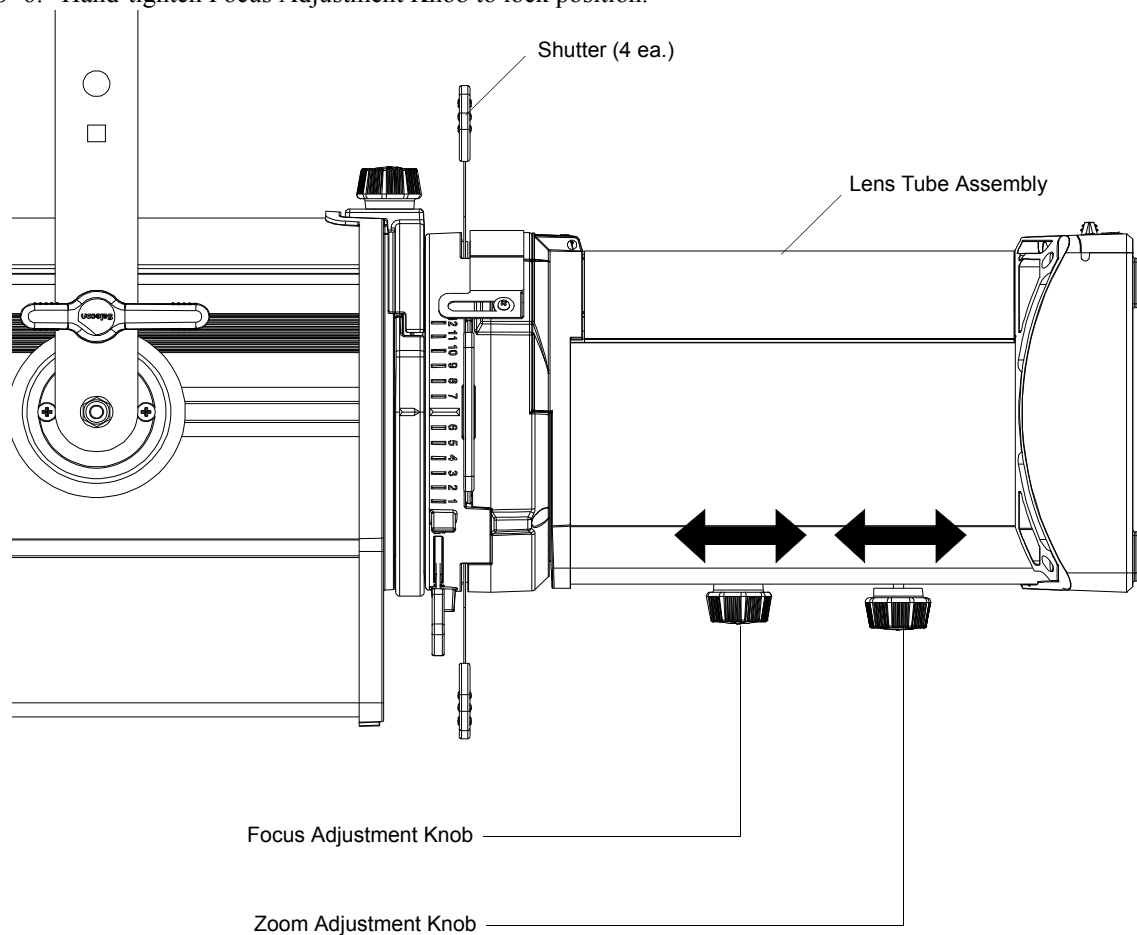

Figure 7: Zoom and Focus Adjustment Knobs
- Step 2. As shown in **Figure 7**, loosen Zoom Adjustment Knob and set beam angle as desired.